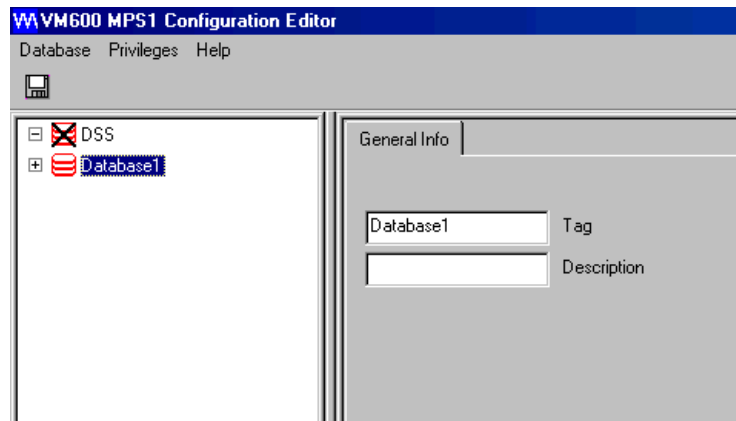

Figure 4-4: Main window of the VM600 MPS1 Configuration Editor (VM600 MPSx software)
- 5- The main VM600 MPS1 Configuration Editor window appears, as shown in Figure 4-4.